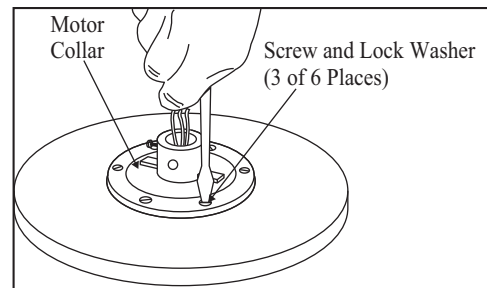

Figure 9
4. Remove three of the six screws and lock washers (every other one) from the collar of top motor. (Figure 9)